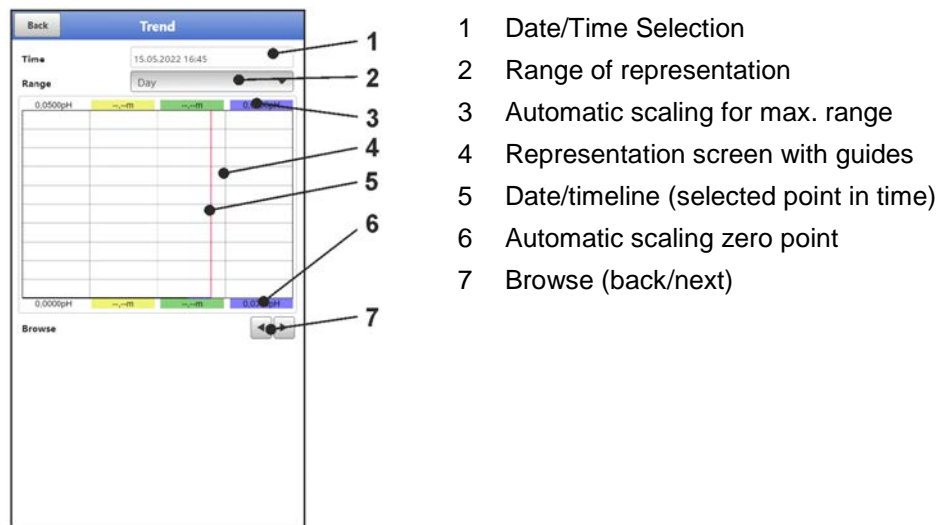
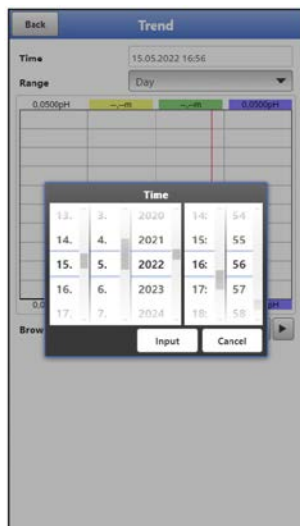

Fig. 40-2 Representation Trend Graph
Fig. 40-3 Selecting Date/Time
1. Select the desired range (range of representation; Fig. 40-2 Pos. 2).
2. If necessary, use the arrows (Fig. 40-2 Pos. 7) to scroll forwards and backwards with the same basic display setting.
When the Trend menu is opened, the current date and time are displayed. If historical measurement data or a specific point in time is to be displayed, this can be set via the date/time selection (Fig. 40-2 Pos. 1). The selection mask shown below opens here (Fig. 40-3). If a start date is selected, (depending on the range set) the measurement data is shown in the display area below.